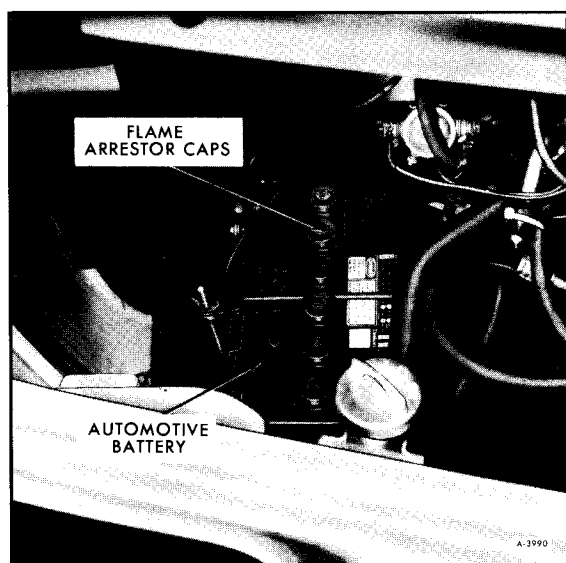

Figure 1—MotorHome Automotive Battery
- **MotorHome**—The main (automotive) battery (figure 1) is located behind the right front access door. The auxiliary (living area) battery is located in the storage or motor generator compartment.
The lead-acid battery or storage battery (figure 1) is an electrochemical device for converting chemical energy into electrical energy. It is not a storage tank for electricity as is often believed, but instead, stores electrical energy in chemical form.